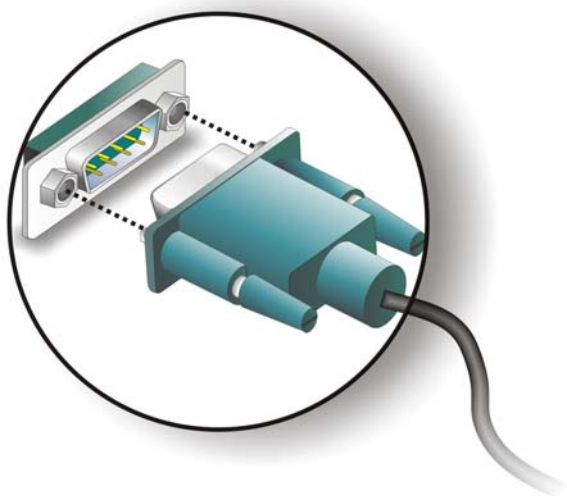

Figure 3-18: Serial Device Connector
Step 2: **Insert the serial connector.** Insert the DB-9 connector of a serial device into the DB-9 connector on the bottom panel. See **Figure 3-18**.